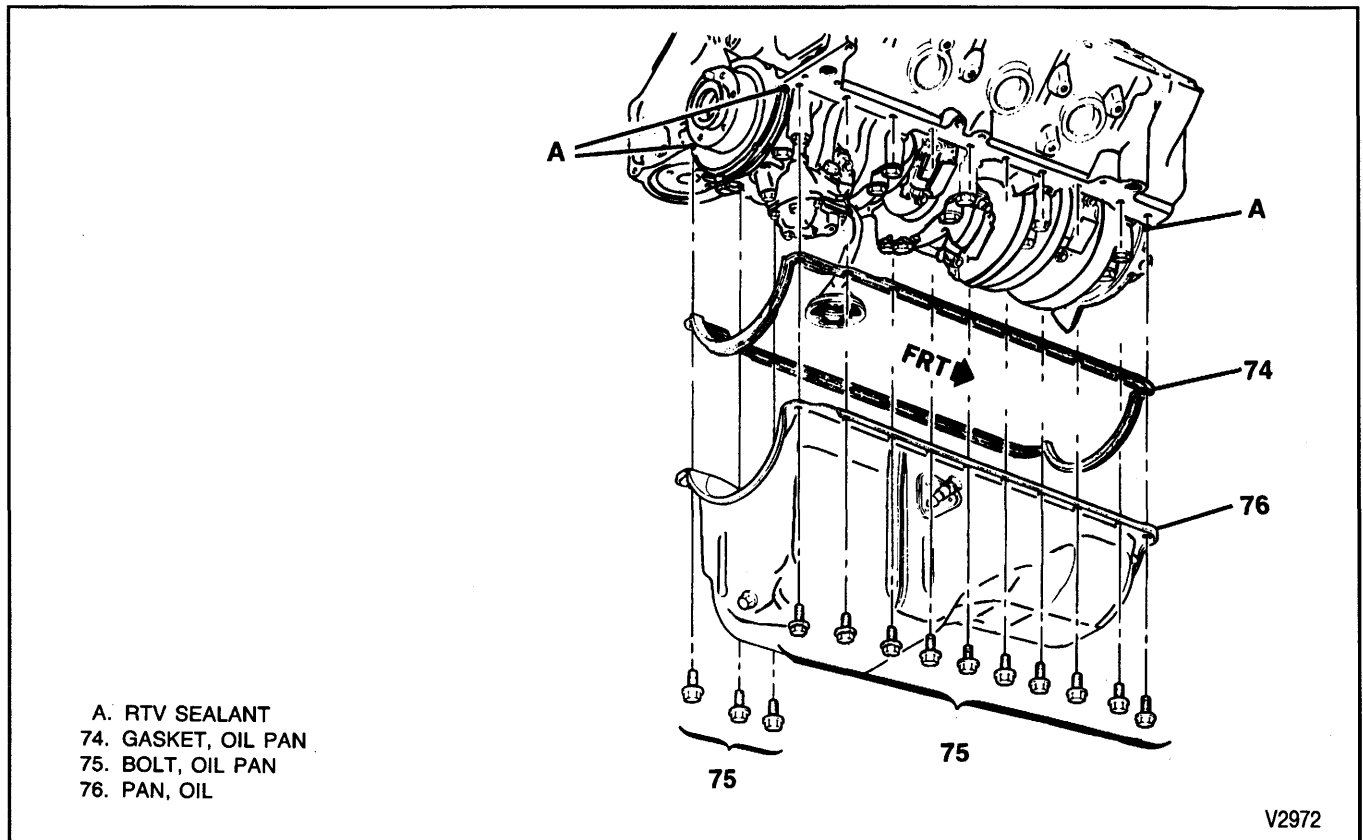

Figure 18—Oil Pan and Components
Remove or Disconnect (Figure 18)
Install or Connect (Figure 18)
- Apply RTV sealer (GM P/N 1052080 or equivalent) to the front and rear corners of the gasket as shown in figure 18.
- 1. Oil pan gasket (74) to the oil pan (76).
- 2. Oil pan (76) to the engine.
- 3. Oil pan bolts (75).